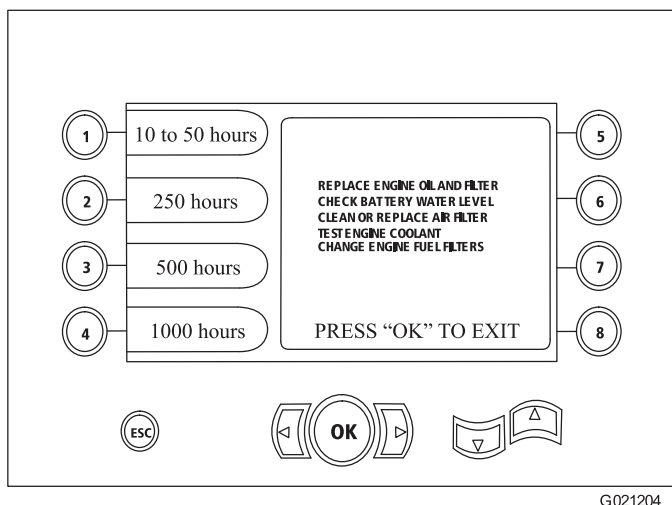

Figure 25
- Button 2—250-hour maintenance schedule (Figure 25)